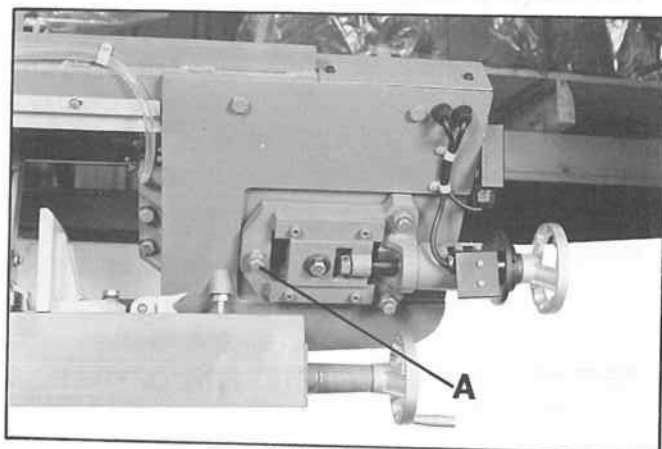

Fig 8
The blade is tracking properly when the back of the blade is against the wheel flanges of both wheels. If the back of the blade is not against the wheel flanges, tighten or loosen screw (A) Fig. 8, until the blade is tracking properly.